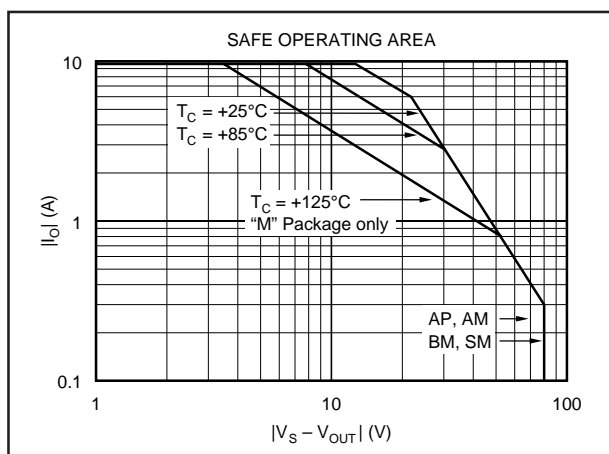

FIGURE 1. Safe Operating Area.
NOTE: (1) SOA is the Safe Operating Area shown in Figure 1. (2) Plastic package may require insulator which typically adds 1°C/W .
The safe operating area (SOA) plot provides comprehensive information on the power handling abilities of the OPA541. It shows the allowable output current as a function of the voltage across the conducting output transistor (see Figure 1). This voltage is equal to the power supply voltage minus the output voltage. For example, as the amplifier output swings near the positive power supply voltage, the voltage across the output transistor decreases and the device can safely provide large output currents demanded by the load.